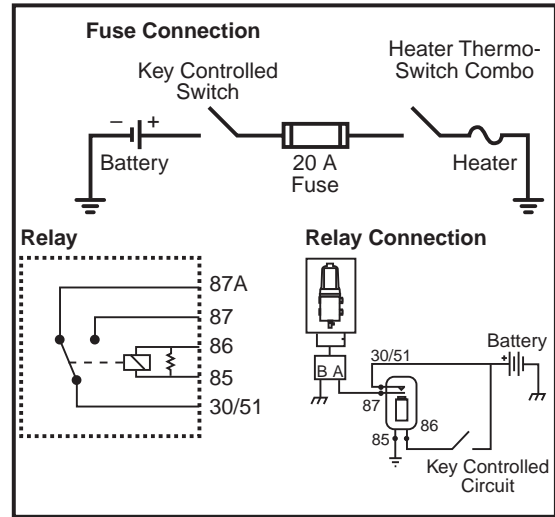

FIGURE 5
**Step 1** - If the Heater-thermo Combo unit (1) is not already installed, remove the 1/2" NPT plugs from the bottom plate of the Diesel Pro and install the Heater-Thermo Combo unit. Torque to 15-30 ft-lbs (20.3-40.7 N·m).
**Step 2** - Connect the Chassis-Ground Harness (4) to the Fuel Processor Harness.
**Step 3** - Connect the Power Lead to the accessory side of the ignition switch. (Use of a 20 A fuse is recommended but not included in the Diesel Pro kits. Use a relay if the equipment ignition circuit will not handle a minimum of 20 A. See figure 5).
Step 1 - If the Heater-thermo Combo unit (1) is not already installed, remove the 1/2" NPT plugs from the bottom plate of the Diesel Pro and install the Heater-Thermo Combo unit. Torque to 15-30 ft-lbs (20.3-40.7 N·m).
Step 2 - Connect the Chassis-Ground Harness (4) to the Fuel Processor Harness.
Step 3 - Connect the Power Lead to the accessory side of the ignition switch. (Use of a 20 A fuse is recommended but not included in the Diesel Pro kits. Use a relay if the equipment ignition circuit will not handle a minimum of 20 A. See figure 5).